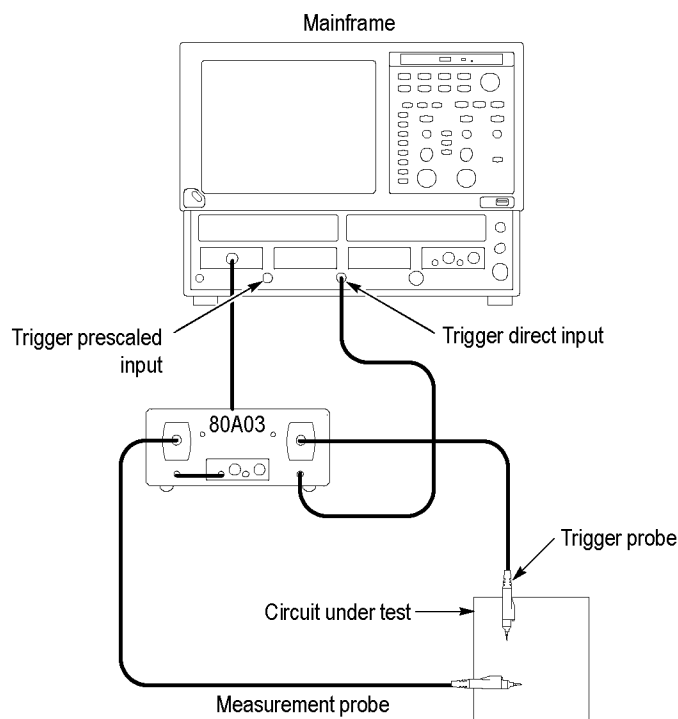

Figure 7: Equipment setup for functional check
- a. On the mainframe, connect the SMA cable to the Internal Clock Output. (See Figure 7 on page 11.)
- b. Turn the Vertical scale knob and set the sensitivity to display a square waveform of several cycles, similar to the one shown. (See Figure 7.)